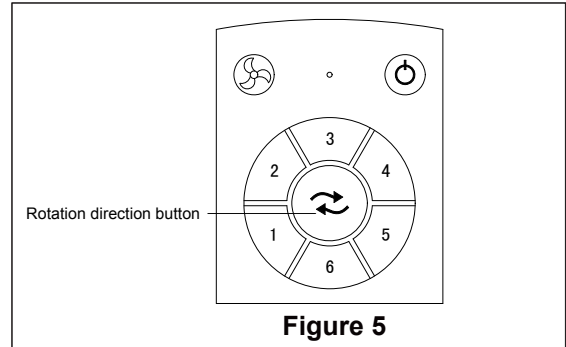

Figure 5
Use a wood screw to securely fasten the safety cable directly to the wood structure of the ceiling (Figure 5)
- ☐ If airflow is desired in the opposite direction, Press the F/R button again. (Figure 5)